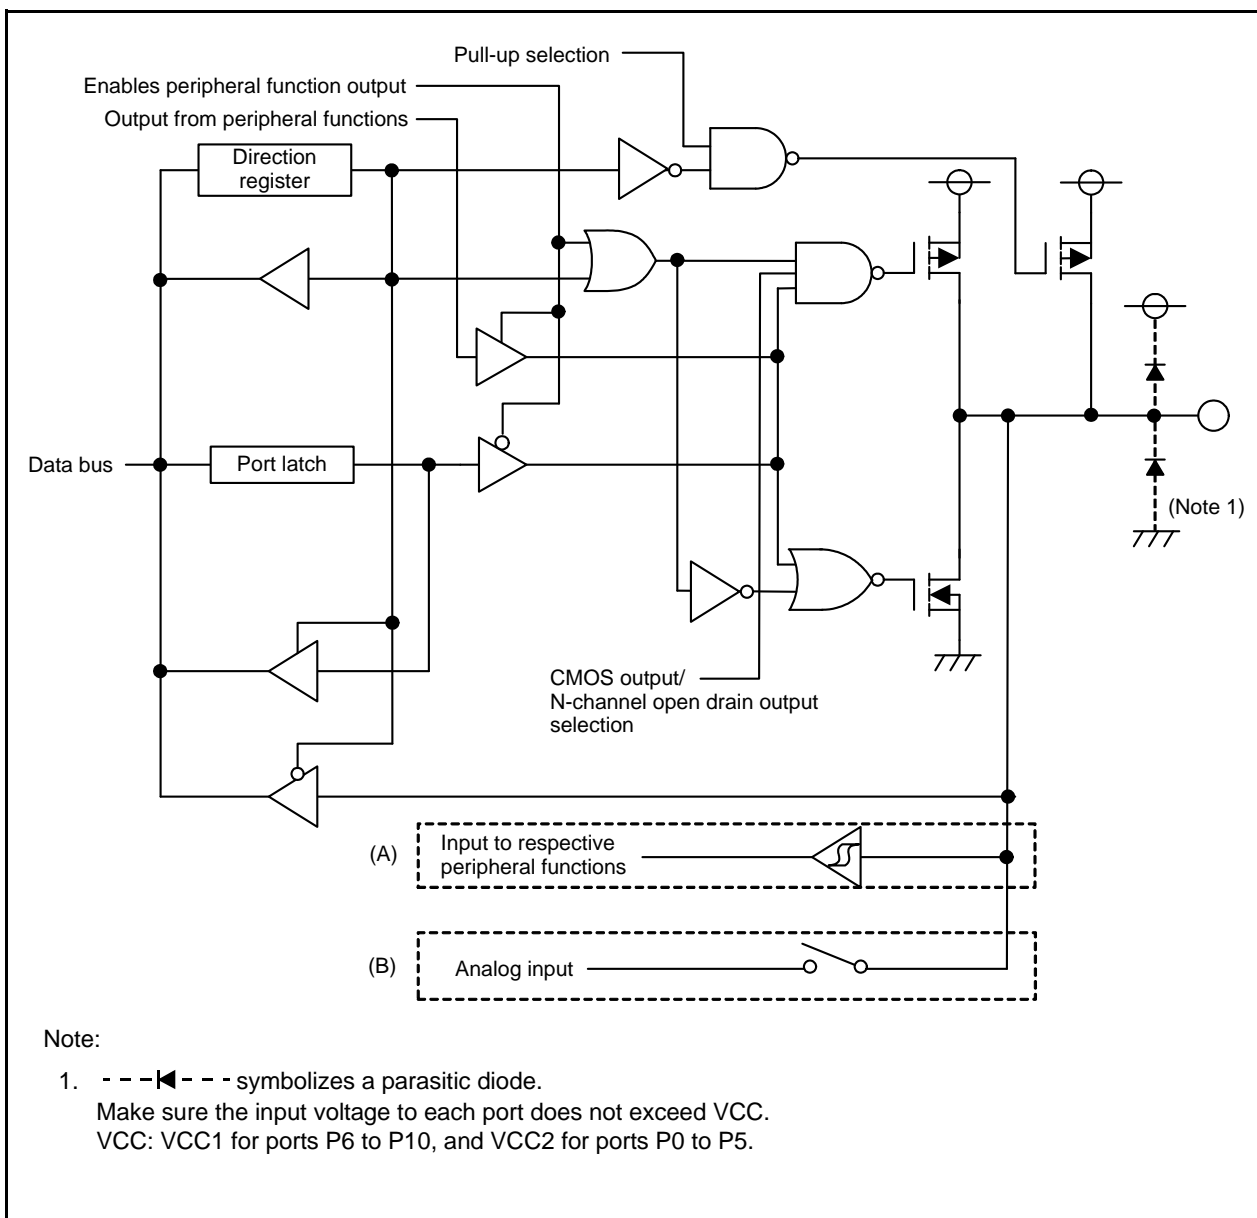

Figure 13.4 I/O Ports (CMOS Output/N-channel Open Drain Output Selection)
Peripheral function input (A) in Figure 13.4	Analog input (B) in Figure 13.4